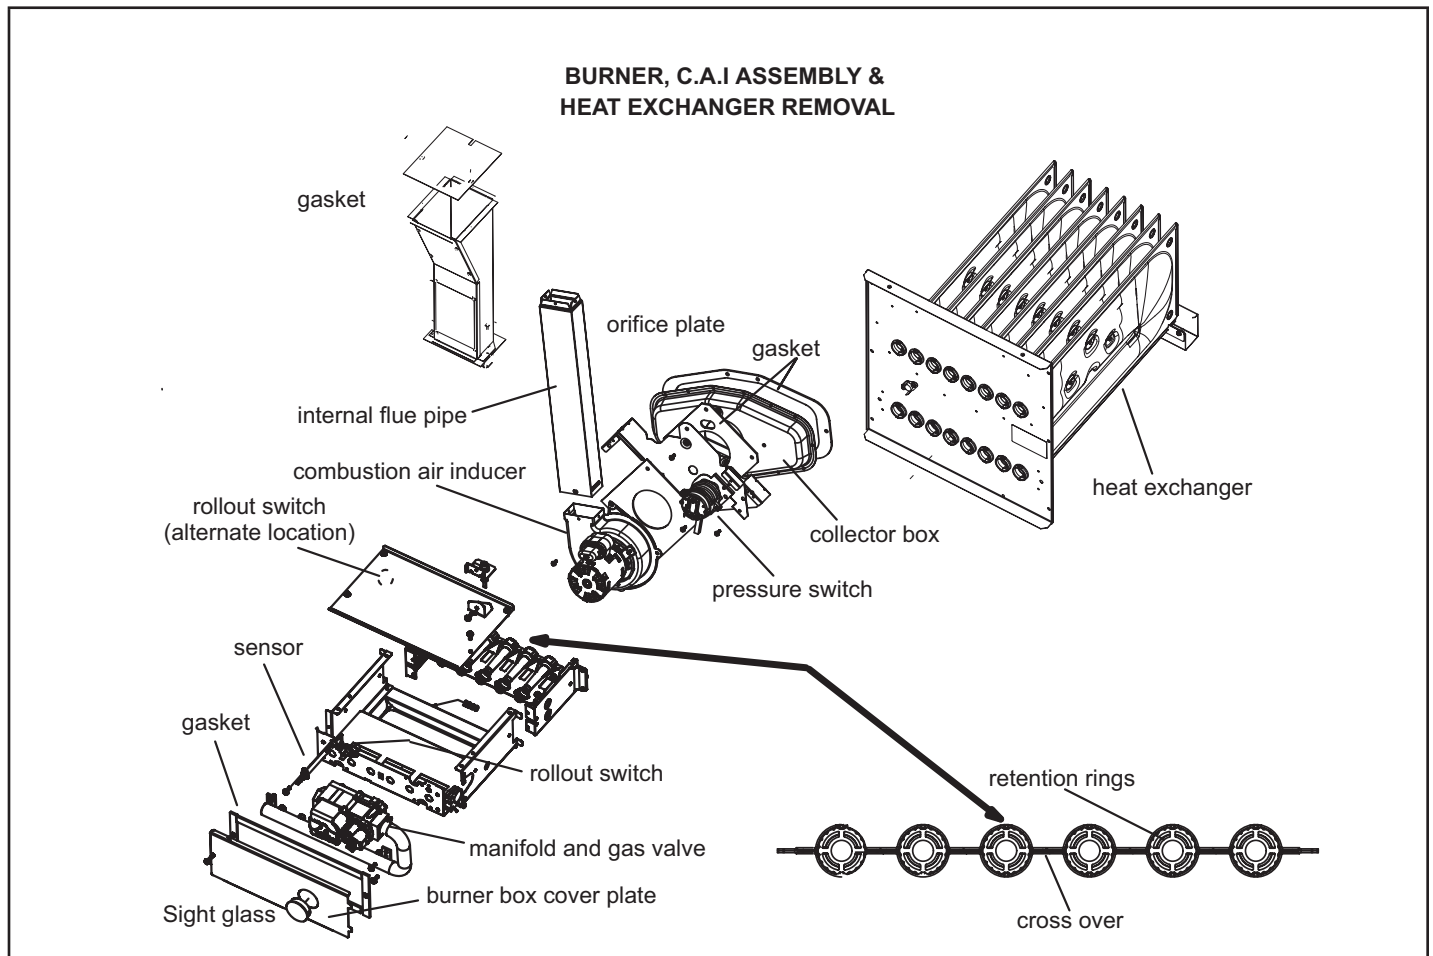

FIGURE 21
- 11 - To clean burners, run a vacuum cleaner with a soft brush attachment over the face of burners. Visually inspect inside the burners and crossovers for any blockage caused by foreign matter. Remove any blockage. FIGURE 21 shows burner detail.